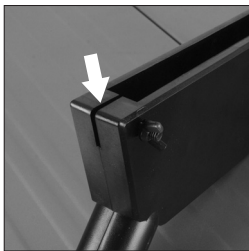

Fig. 20
- The guards locating pin should be positioned through the hole machined in the top edge of the riving knife **(Fig. 20)**. A washer and wing nut are fitted to one side of the top guard.